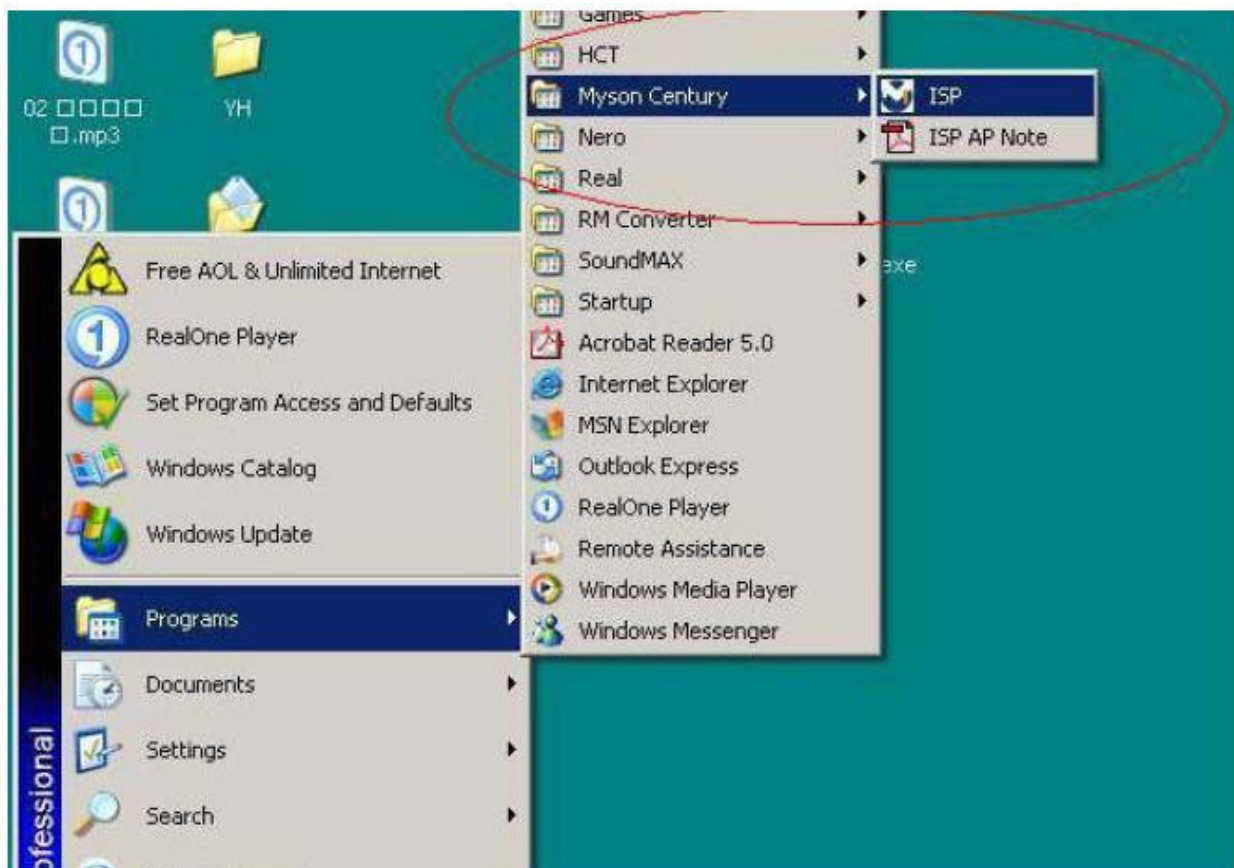

Fig. 2.1
2.1 After installation , we could find the shortcut in the setting path or the program bar ( default setting ) , see Fig 2.1